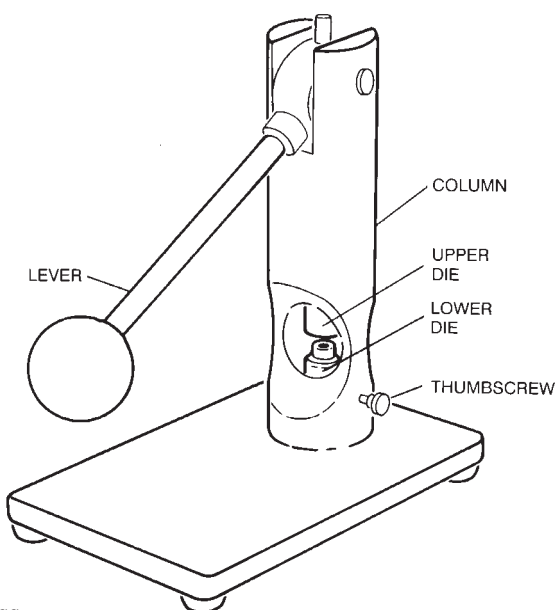

Figure A.1
- a. Loosen the thumbscrew on the column of the Sample Press (see Figure A.1).
- b. Loosen the thumbscrew on the column of the Sample Press (see Figure A.1).